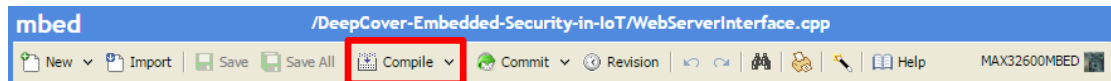

Figure 8. Compiling the firmware.
3. Compile the firmware (**Figure 8**). A window prompts the user to download **DeepCover-Embedded-Security-in-IoT.bin**, the compiled binary firmware.